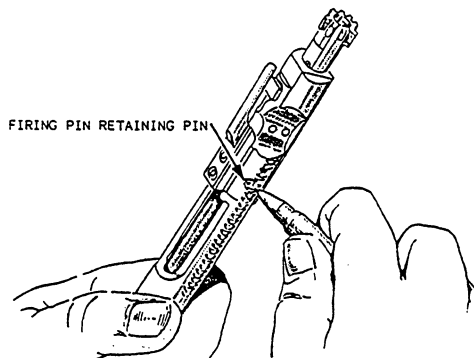
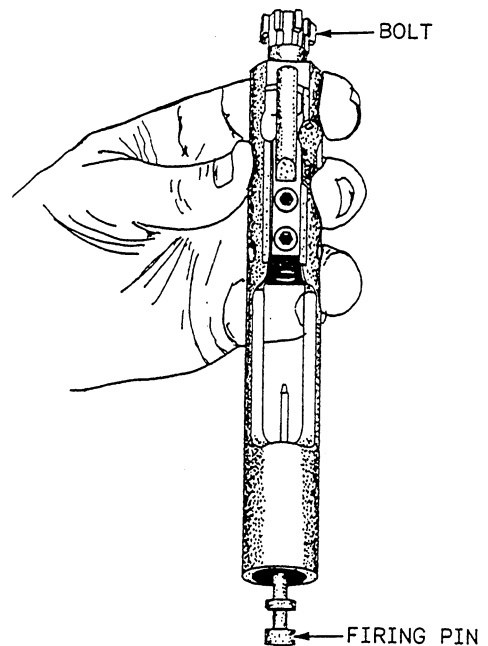

Figure 3-15.—Pressing out the firing pin retaining pin with the tip of a cartridge.
Figure 3-16.—Removing the firing pin.
5. Press out the firing pin retaining pin (fig. 3-15) to disassemble the bolt carrier group. Elevate the front of the bolt carrier, and allow the firing pinto drop from its well in the bolt (fig. 3-16). Rotate the bolt until the cam pin is clear of the bolt carrier key. Remove the cam pin by rotating it 90 degrees (one-quarter turn) and